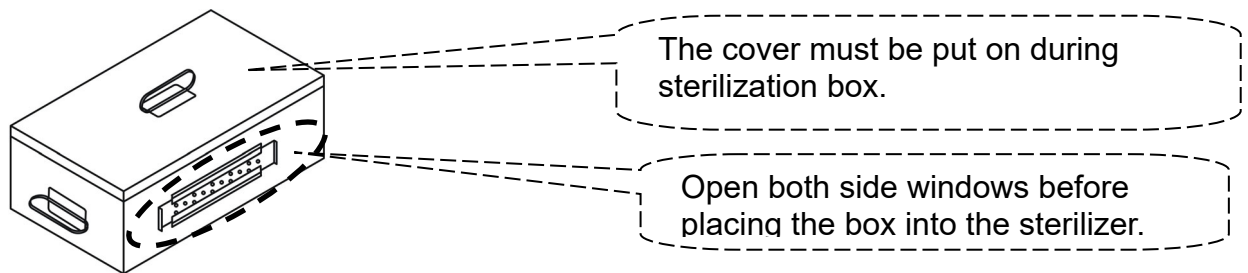

Figure 16
- D. Place the items to be sterilized and the sterilization indicator strips into the box as required. Remember to open both side windows before placing the box into the sterilizer as Figure 16.